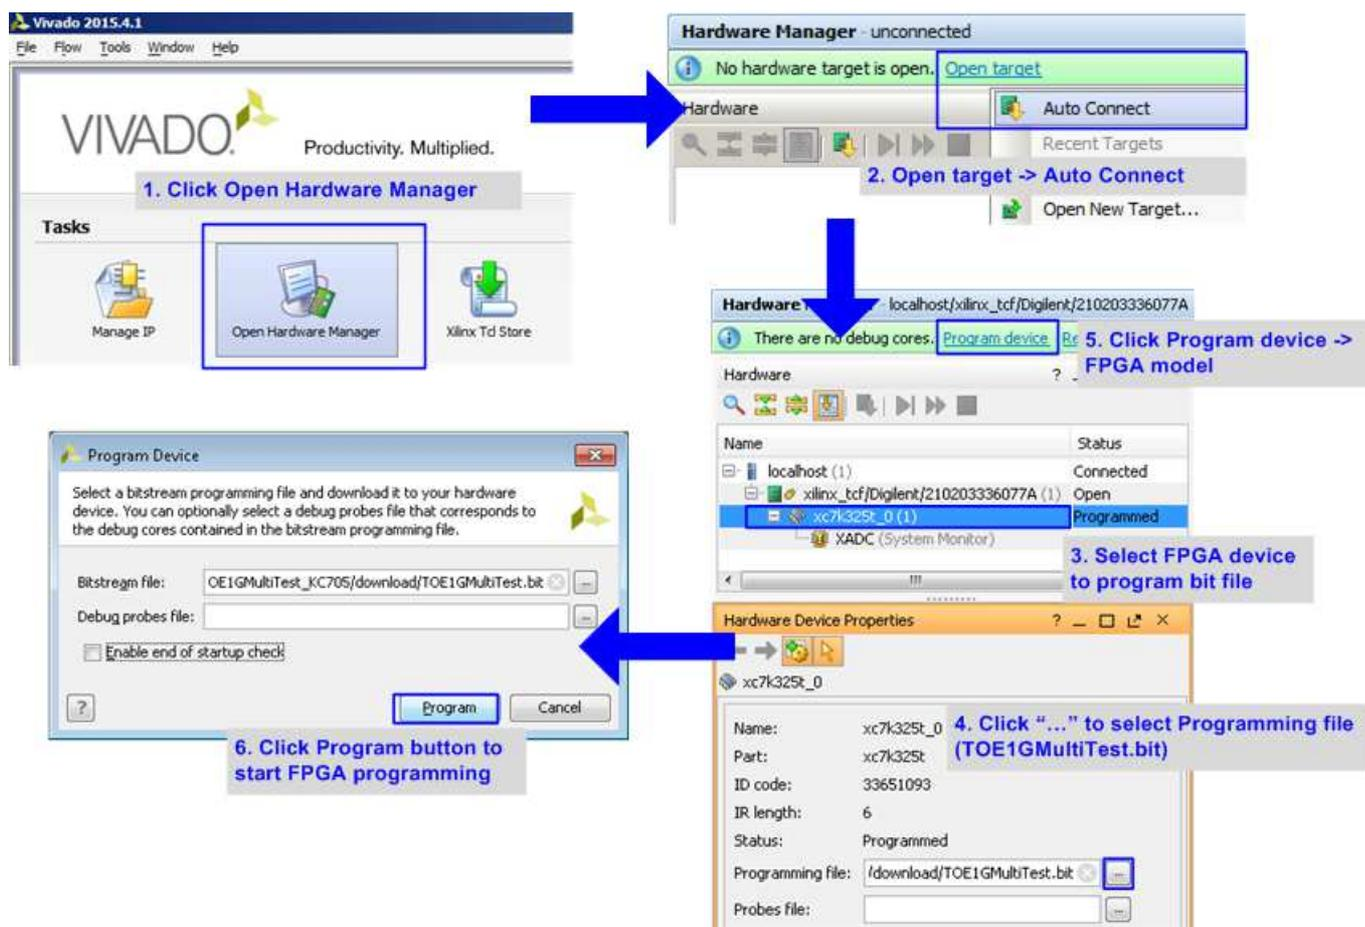

Figure 3-2 Programmed by Vivado
- 5) Open Hardware Manager in Vivado to download bit file to FPGA development board, as shown in Figure 3-2.